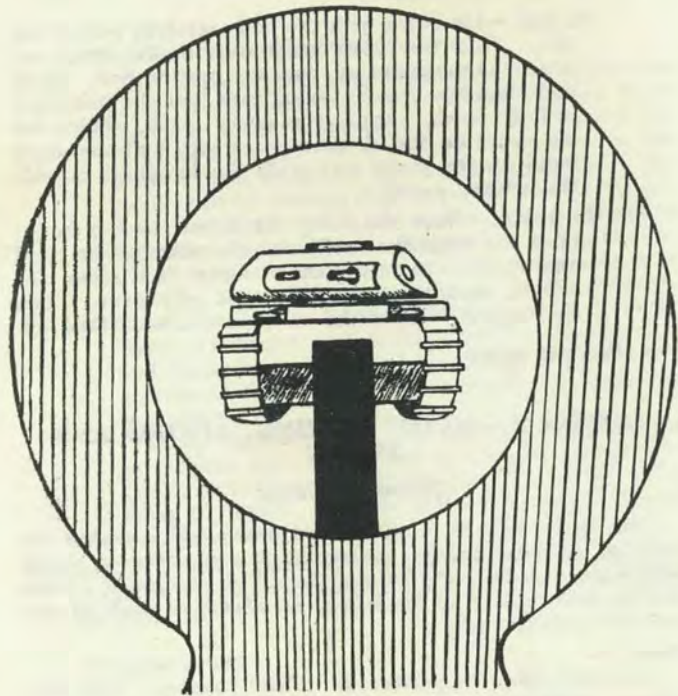

Fig. 4. Correct aim approaching tank.
Explain, using diagrams, that the method, of aiming is the same as that employed with the L.M.G. (*see* Fig. 4) but that with the anti-tank rifle the targets will normally be moving. The following rules will be applied when firing at A.F.Vs. :—
- i. When stationary, approaching, or retiring, aim at the centre (*see* Fig. 4).